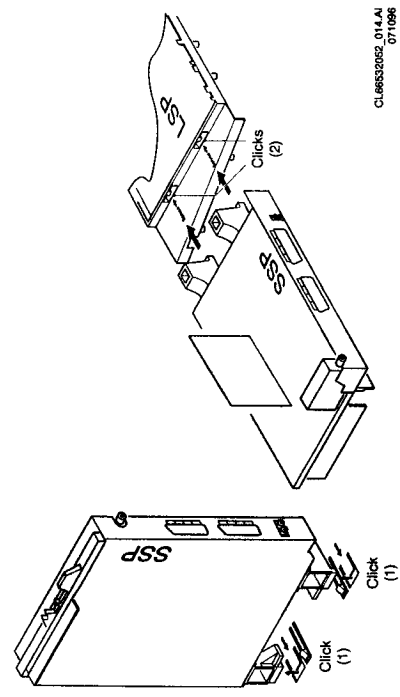

Figure 4.1
**Small Signal Panel (SSP) component side (Figure 4.1)**
1. Push down the clicks of the SSP bracket (1) and shift the SSP to the left.
3. Put the SSP in the clicks (2) marked "Service" on the bottom plate.